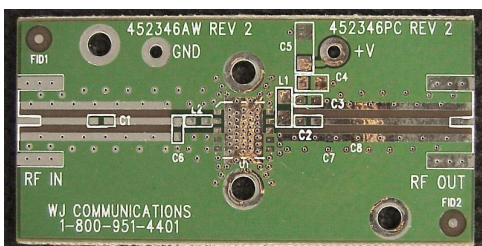

Figure 1. WJ Communications' AH201 Application Board.
1. A properly laid-out PCB with an ample amount of via holes must be used to mount the AH201. The vias are used both to transfer heat during the manual assembly procedure and to also dissipate heat efficiently from the PCB during normal operation. Details for the recommended land pattern are shown in the AH201 Datasheet. The backside of the PCB must also be exposed and not contain solder mask in order to heat up the backside of PCB for this procedure. The AH201 PCB used for AH201 Sample Application Boards is used to investigate the procedure and is shown in Figure 1.